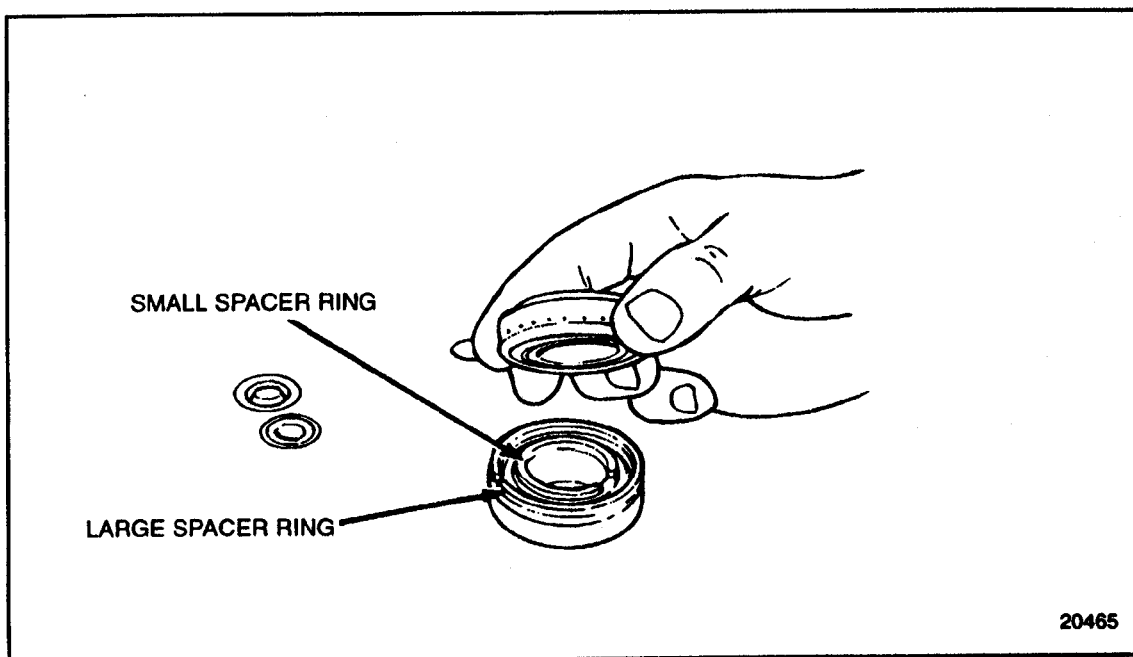

Figure 4-44 Bearing Pack Assembly (FM)
2. Assemble new bearing packs. See Figure 4-44.